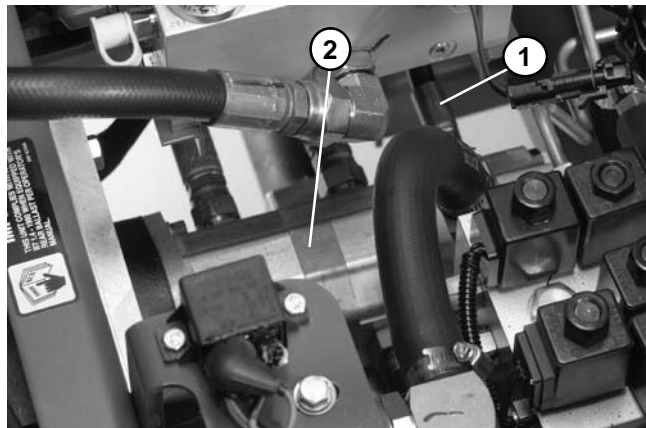

Figure 22
3. With the engine off and cutting units lowered, install tester in series between pressure hose and the gear pump section P3 (Fig. 22). Make sure the tester flow control valve is OPEN.